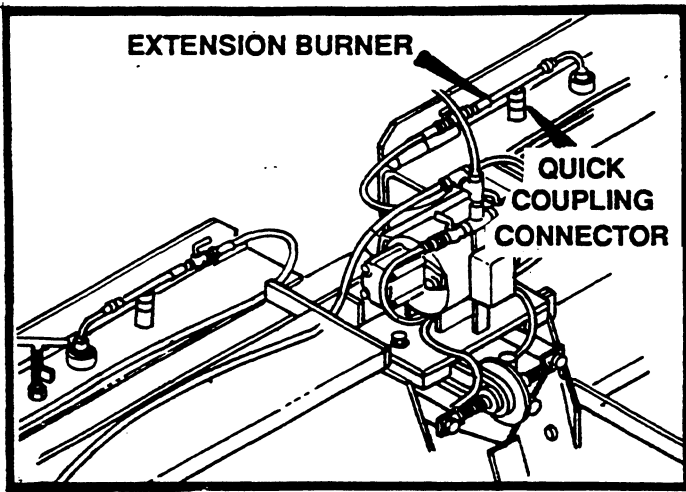

FIGURE 9
6. The extension burners are held in position to the screed with a quick coupling connection. Remove the extension burner from quick coupling connector and light. See figure 9.